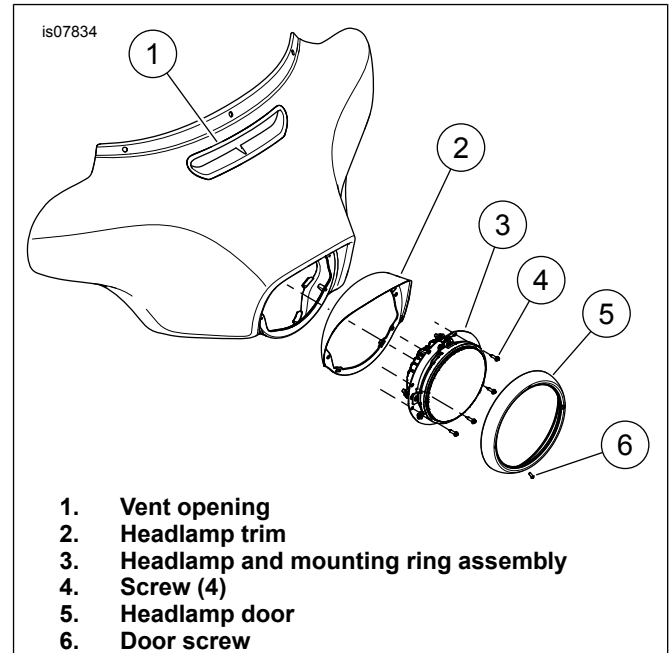

Figure 1. Outer Fairing
1. See Figure 1. Remove the headlamp door (5). Remove headlamp mounting ring with headlamp (3). See the service manual.
2. Remove the headlamp trim (2) from outer fairing.